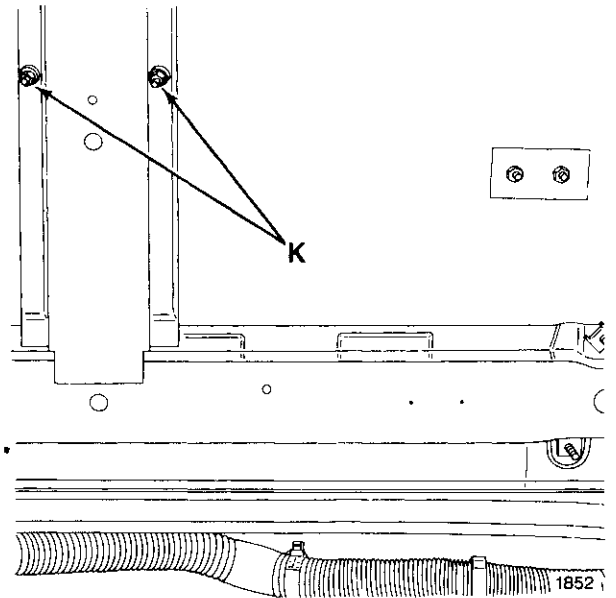

Fig. 4
5. Remove both footman loop nuts (K-Fig. 4) located at the center of the hood.